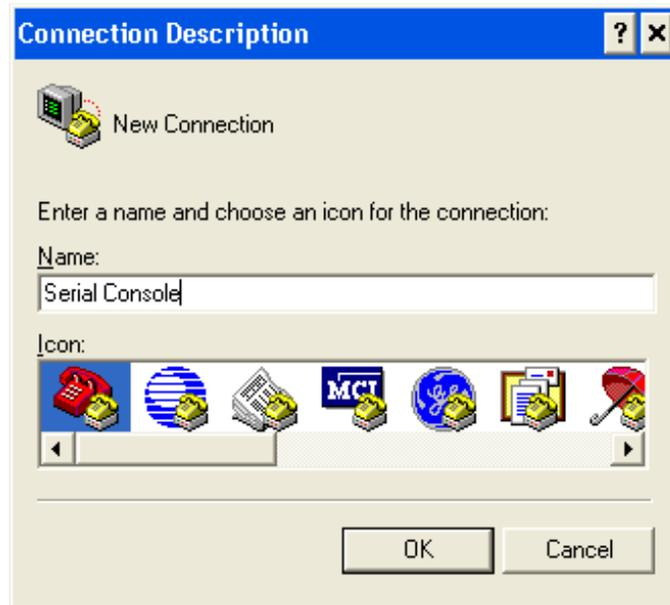

Figure 2: HyperTerminal Connection Description
2. The Connection Description window is displayed (Figure 2). Enter a name and choose an icon for the connection. For example, type Serial Console as the name of the new HyperTerminal session and click **OK**.